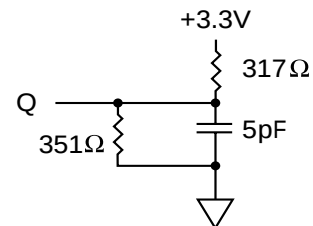

Figure 2
4. The load used for V_{OH}, V_{OL} testing is shown in Figure 2. AC load current is higher than the stated DC values. AC I/O curves are available upon request.
3. This parameter is measured with output loading shown in Figure 2.